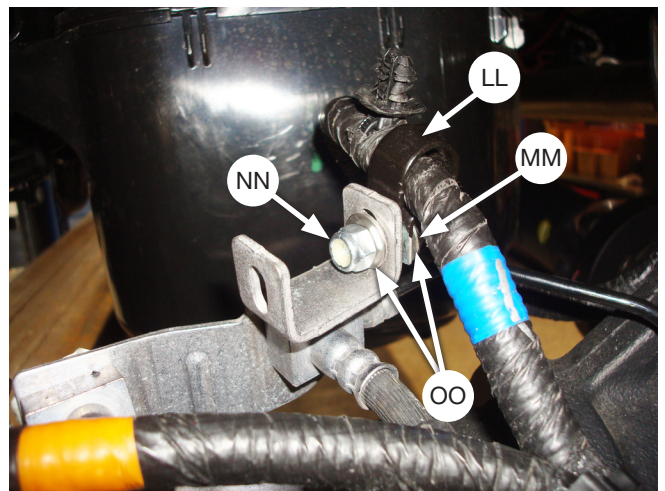

Fig. 23
4. Install the P-clamp (LL) around the right ABS harness and attach the P-clamp to the inside hole on the bracket section that was just bent (Fig. 23) using the 1/4" hex screw (MM), 2 flat washers (OO) and nylon lock nut (NN).